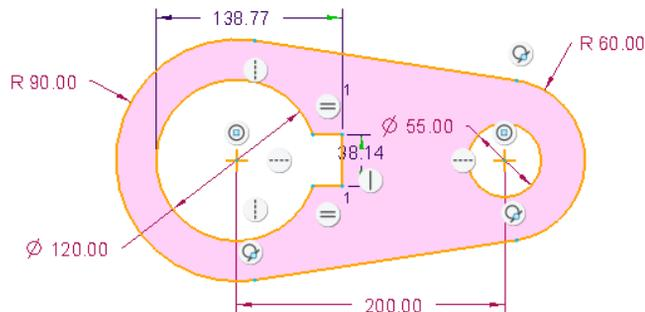

Figure 3-33 Sketch after dimensioning the keyway
2. Dimension the keyway, as shown in Figure 3-33.